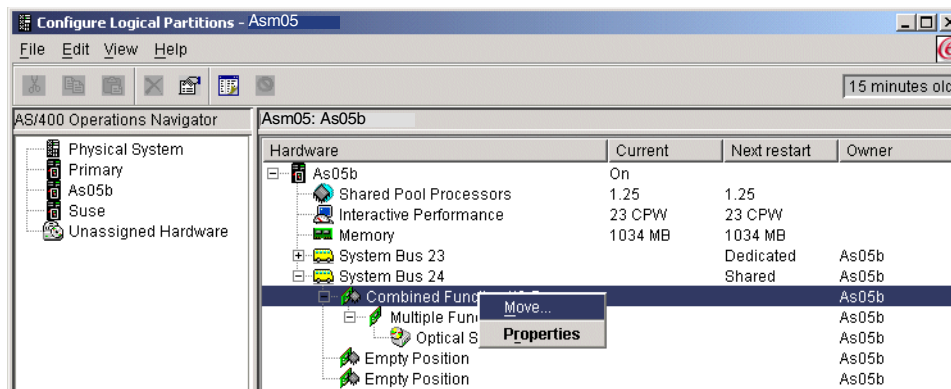

Figure 8-43 Configure Logical Partitions display: IOP move detail
3. Click the IOP managing the required IOA. Right-click and select **Move** (Figure 8-43).